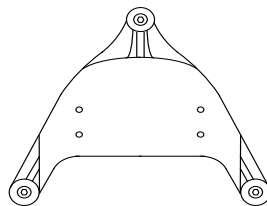
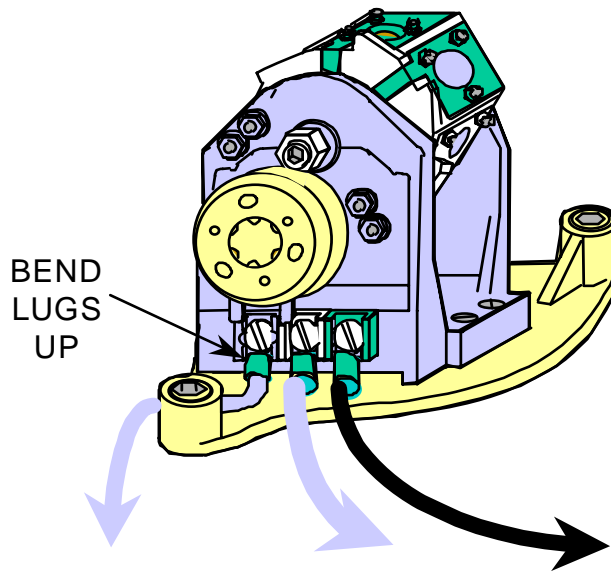

Figure 3-40
Figure 3-41
- (9) Looking down into the beacon, remove the three cap screws securing the lampchanger plate (Figure 3-40) to the flasher housing. Remove the lampchanger plate.
- (10) If not using a flasher, make up three wires, one black, one white and one blue each two feet long with lugs attached to **ONE** end and attach to the lampchanger. The wires should be 12 AWG with PVC or Teflon insulation. After securing the lugs, bend the lugs out 90 degrees from the terminals
- (11) Orient the lampchanger on the Lampchanger Plate so that the terminal strip faces away from the opening in the plate (The lampchanger may be installed with the terminal strip over the opening when no flasher is used).
- (12) Secure the lampchanger to the plate using 10-32 machine screws and nuts, as shown in Figure 3-41. Go to paragraph (16).